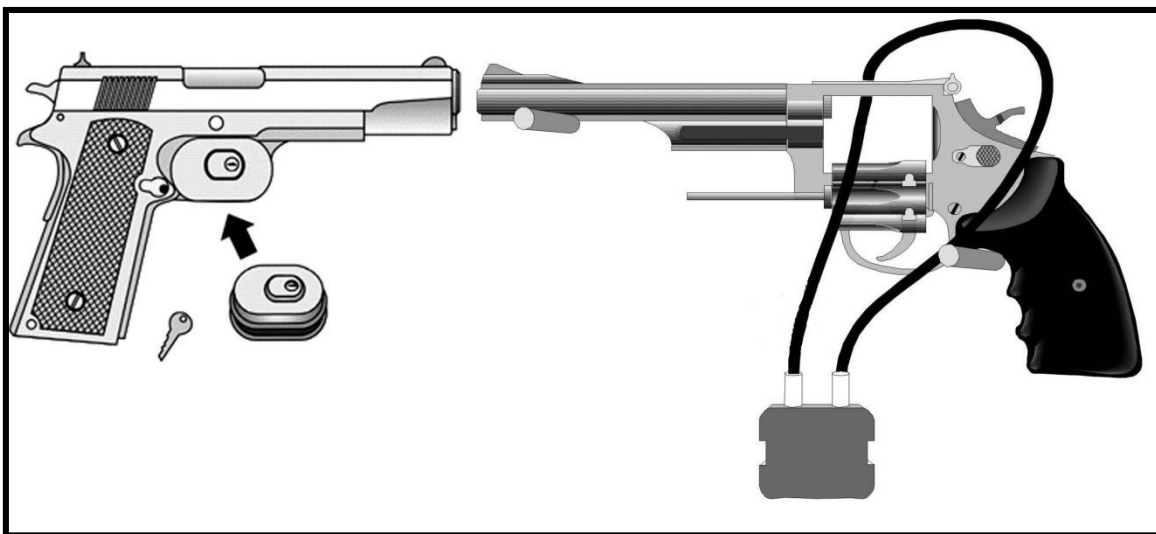
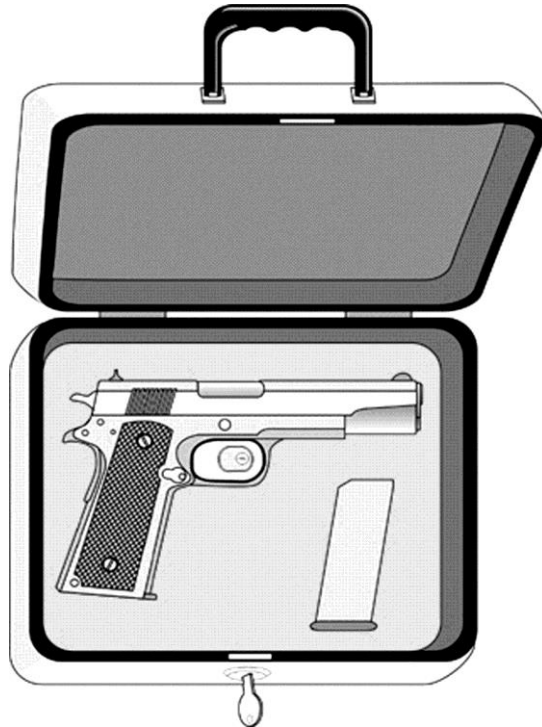

Figure 132. Cable and Trigger Locks
Figure 133. Lockable Carrying/Storage Case
- rendered inoperable by using a secure locking device (Figure 132) and stored in a securely locked container (Figure 133), receptacle or room that cannot be easily broken open or into, or